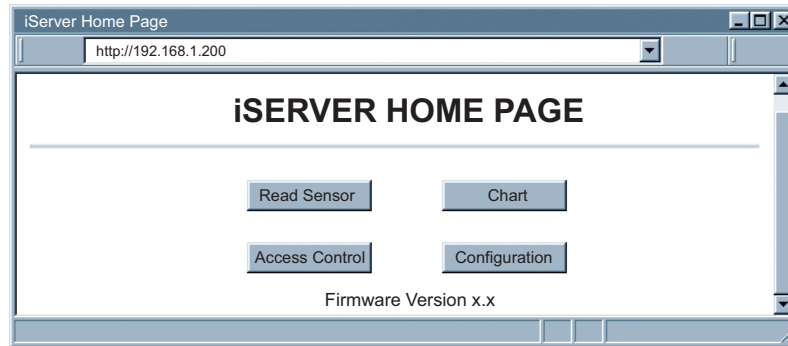

Figure 17: iServer Home Page Menu
Step 3: The Home Page, shown in **Figure 17**, will be displayed.